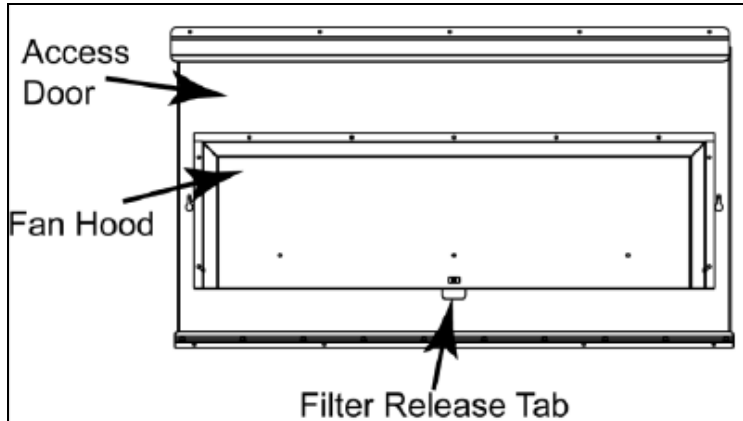

Figure 14: Filter Hood
1. Depress the filter release. Refer to **Figure 14**.